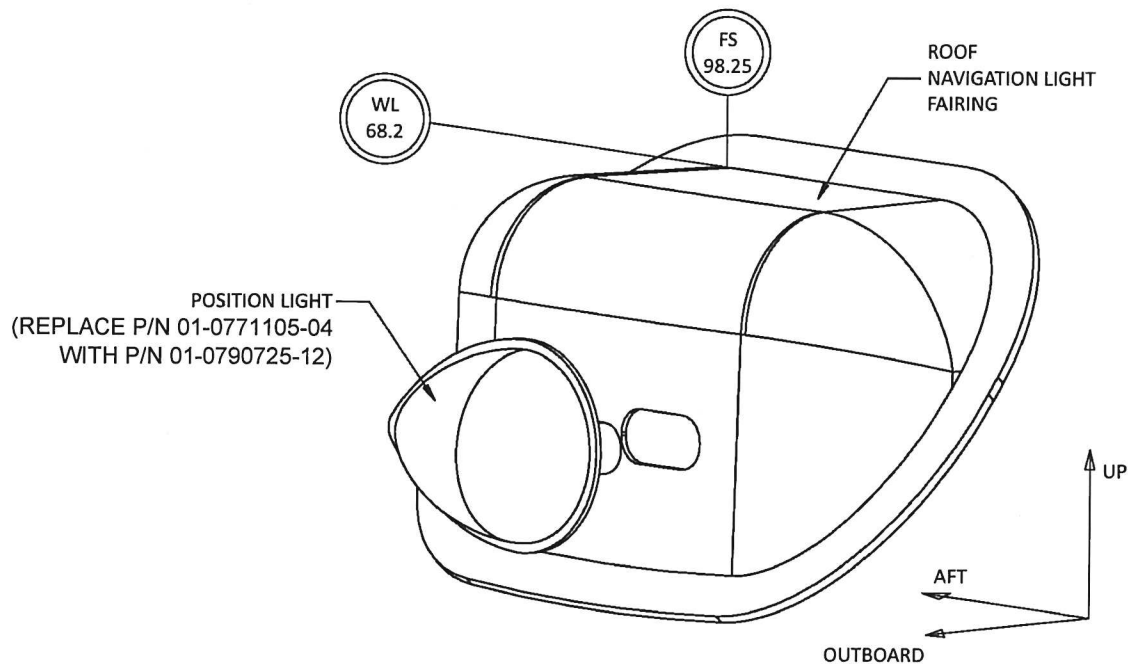

Figure 2 Strobe Light Position (RH Side)
4. Remove existing upper left-hand position light assembly (P/N 01-0771105-04), retain hardware, and replace with position/strobe light assembly (P/N 01-0790725-12) using retained hardware, see Figure 2.